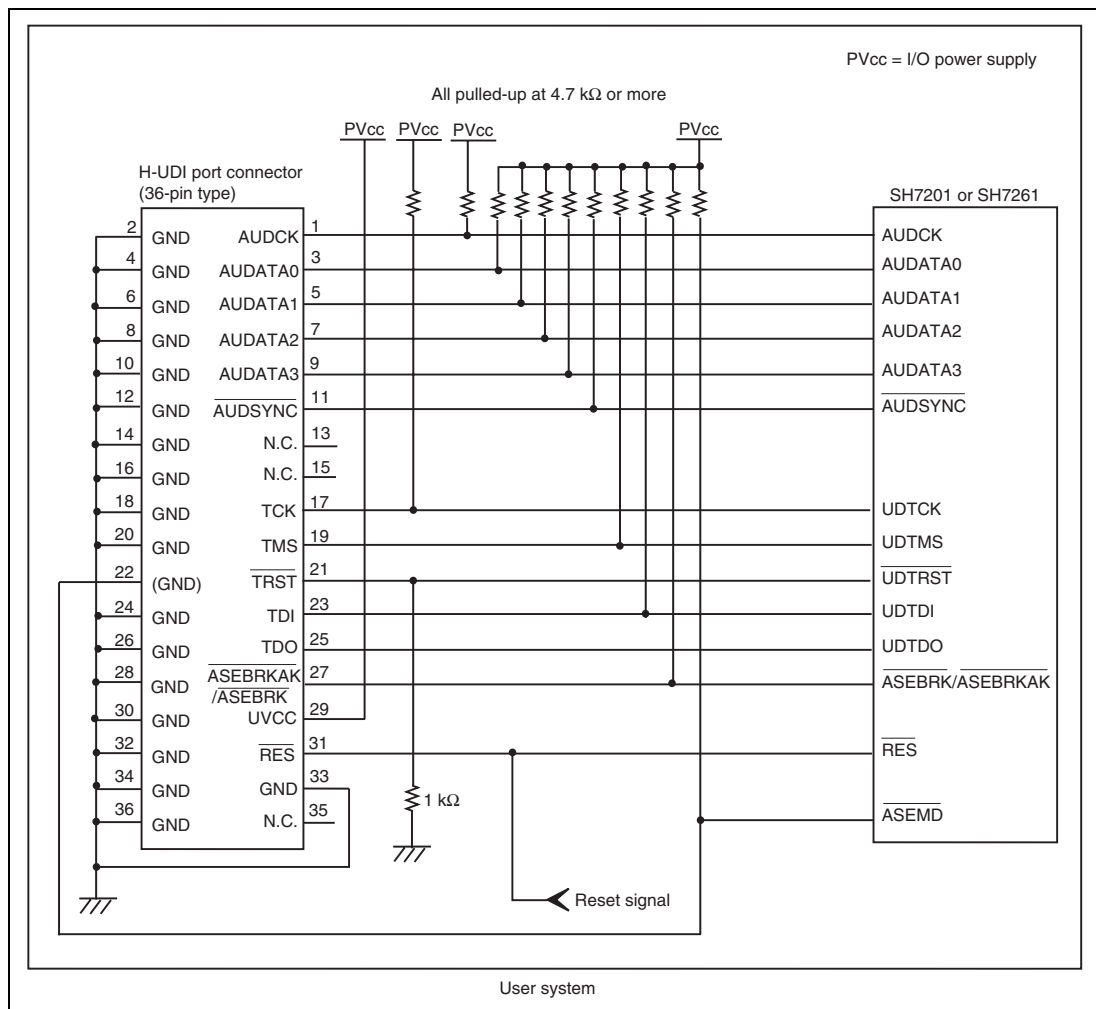

Figure 1.5 Recommended Circuit for Connection between the H-UDI Port Connector and MCU when the Emulator is in Use (36-Pin Type)
Figure 1.5 shows a recommended circuit for connection between the H-UDI and AUD port connectors (36 pins) and the MCU when the emulator is in use.
(1) When the emulator is used: `_ASEMD` = 0
(2) When the emulator is not used: `_ASEMD` = 1
Figure 1.5 shows an example of circuits that allow the `_ASEMD` pin to be GND (0) whenever the emulator is connected by using the user system interface cable. When the `_ASEMD` pin is changed by switches, etc., ground pin 22. Do not connect this pin to the `_ASEMD` pin.
7. The resistance value shown in figure 1.5 is for reference.
When the circuit is connected as shown in figure 1.5, the switches of the emulator are set as SW2 = 1 and SW3 = 1. For details, refer to section 3.8, Setting the DIP Switches, in the SuperH™ Family E10A-USB Emulator User's Manual.